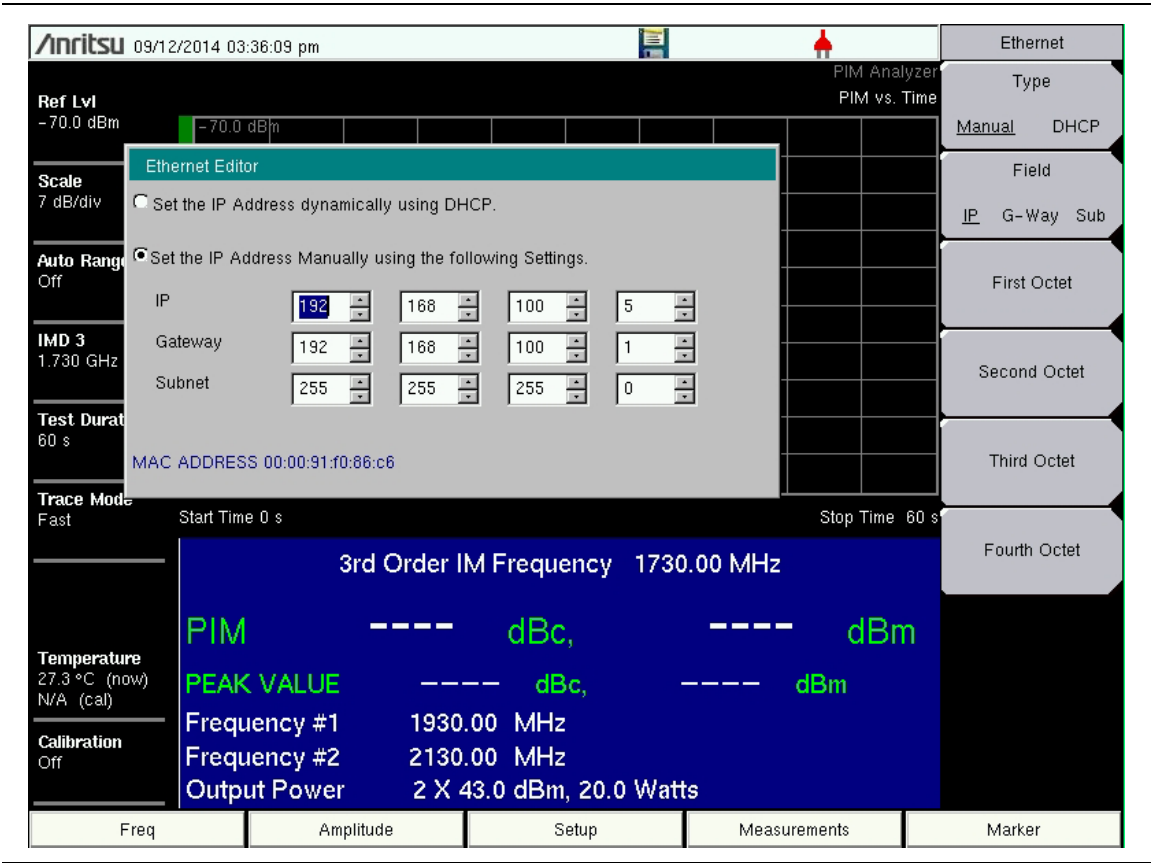

Figure C-3. Example of Entering Ethernet IP Address
- 1. Press **Shift** and **System (8)** to display the System Menu.
- 3. Configure the Ethernet connection. The example IP address is 192.168.100.5 in Figure C-3.
Figure C-3 is an example of the Ethernet Editor. Your information may differ. For example, 255.255.255.0 should be the subnet mask.